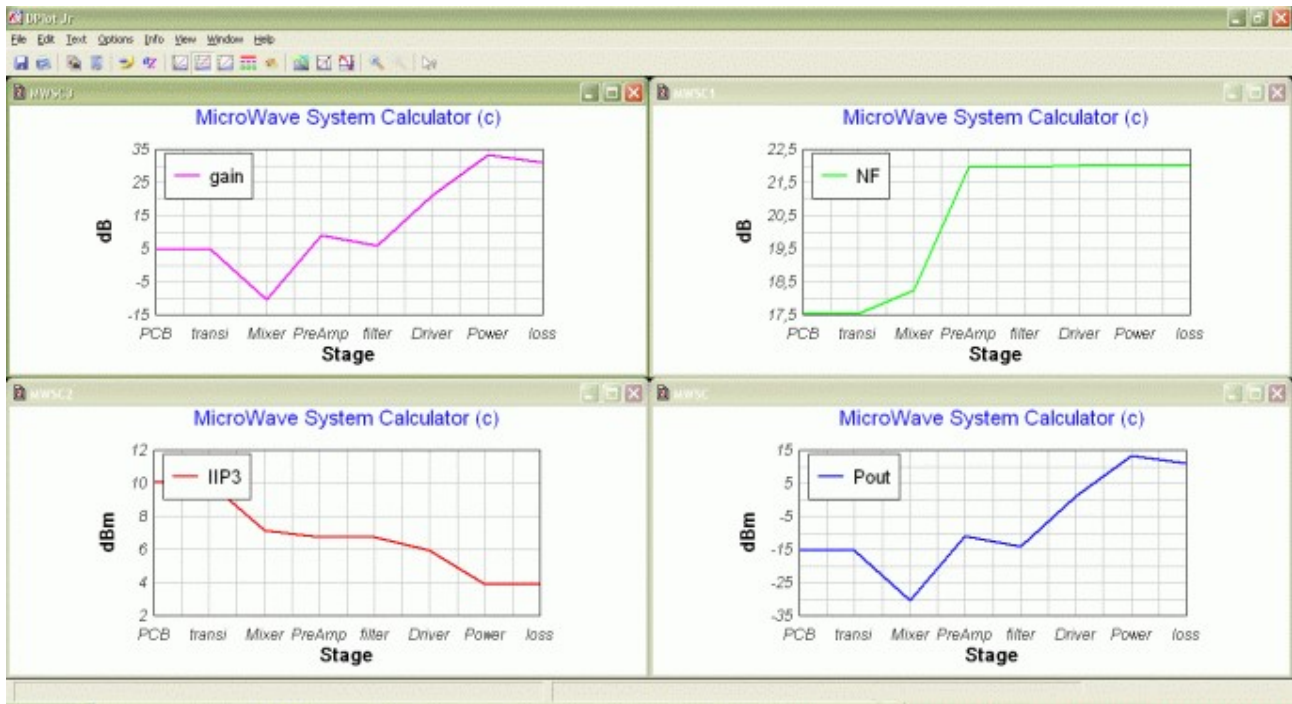

Figure 2: Mystic data output as displayed via dPlot
- The right window is the graphical representation of the main system parameters (see Figure 2). Graphical output is provided by the use of the software *dPlot jr*.
- output plots related to main output quantities (see Figure 2)